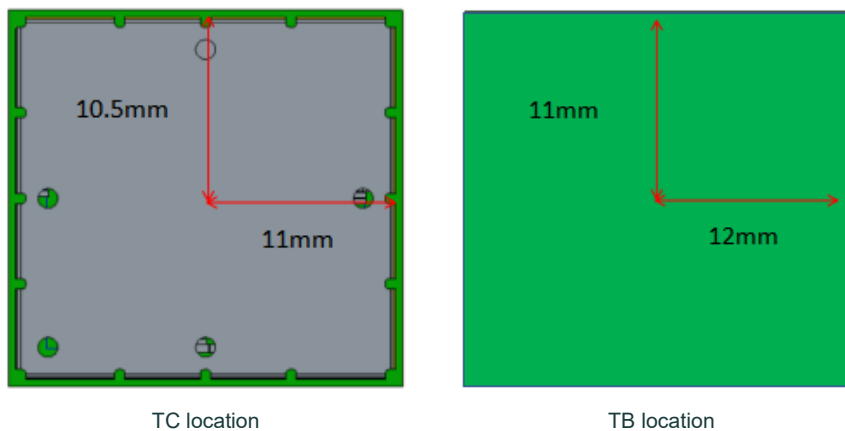

Figure 3: TC/TB Measurement Locations
TC and TB are recommended to be used for evaluating RC71xx thermal risk only when TJ is not available. Measurement locations for TC and TB are shown in Figure 3.
1. Attach thermocouples at the TC and TB locations specified in Figure 3.